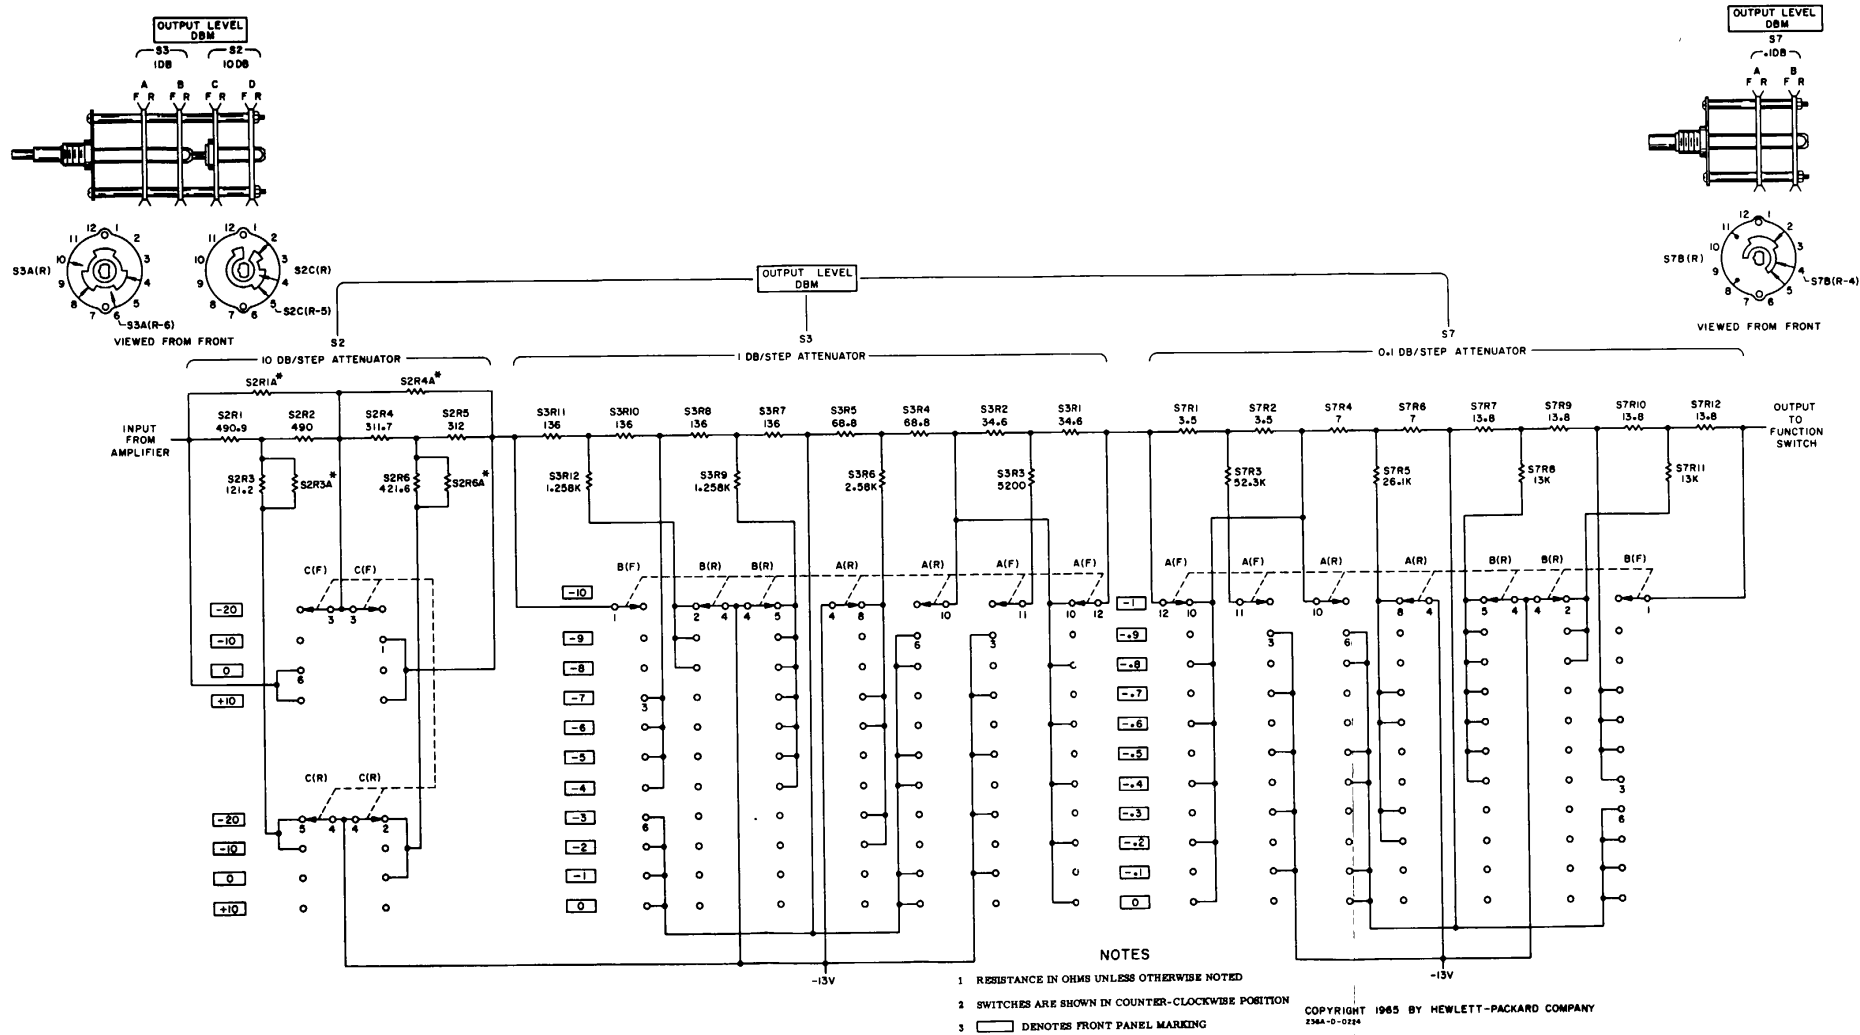

Figure 5-9. Model 236A Attenuator Schematic
(5) Check 10 dB, 1 dB and 0.1 dB attenuators using the procedure outlined in Paragraph 5-18.	This check should isolate the malfunction to one of the attenuators. Analysis of the defective range should further isolate the problem area.
(6) Check amplifier assembly A1Q1-Q6. Check adjustment of R1.	Refer to Figure 5-9 for typical dc voltage levels. See Adjustment and Calibration Procedure for OUTPUT CAL ADJ.
(7) Check adjustment of A1C14, A1C18, A1C19; and check A1C1, A1C2 and A3R1 through A3R8A.	Refer to Adjustment and Calibration Procedure Frequency Calibration.